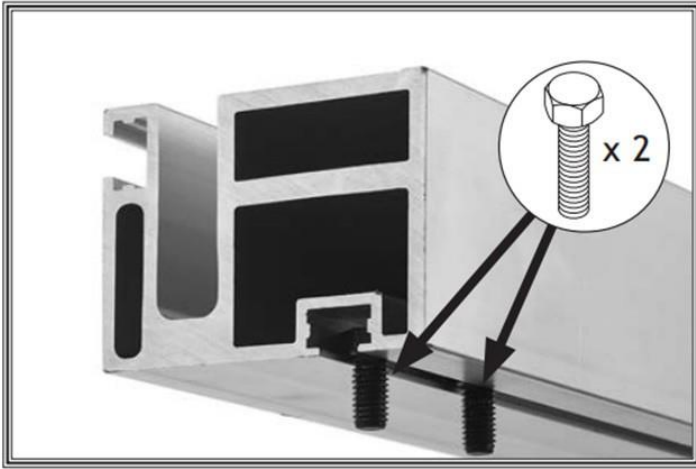

Figure 16: Blots for switch box.
10 - Remove (2) M8-1.25X26mm hex bolts from switch, remove the screw fastening the left endcap of the fence's front rail. Insert the hex bolts into the rail's bottom slot. We'll use these bolts later to mount the switch (see figures 16, 17, next page).